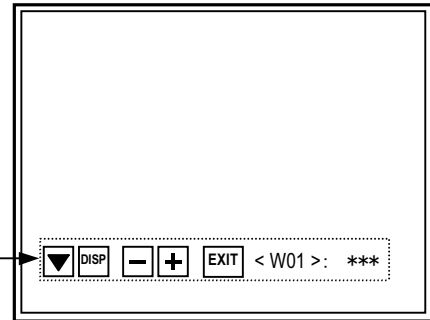

Fig. 12
- ① In the WHITE BALANCE menu screen, press the **VOLUME/SELECT + (UP)** key or **-(DOWN)** key, then enter to the "W01" or "W05" adjustment mode (Fig. 12, 13). In this case, key operation is changed as shown below. The operation of this mode is as same as SIGNAL BLOCK adjustment operation.
- ② In the case of select the "W01" mode, able to adjust the "R CUTOFF". But in order to adjust in correct condition must be adjust the other colour (G or B). Therefore, necessary to change the service numbers and adjusts each value.
- ③ Press the **CHROMA/PHASE** key to select the service number. This mode is WHITE BALANCE BLOCK full adjustment mode (both Low light and High light are able to adjust).